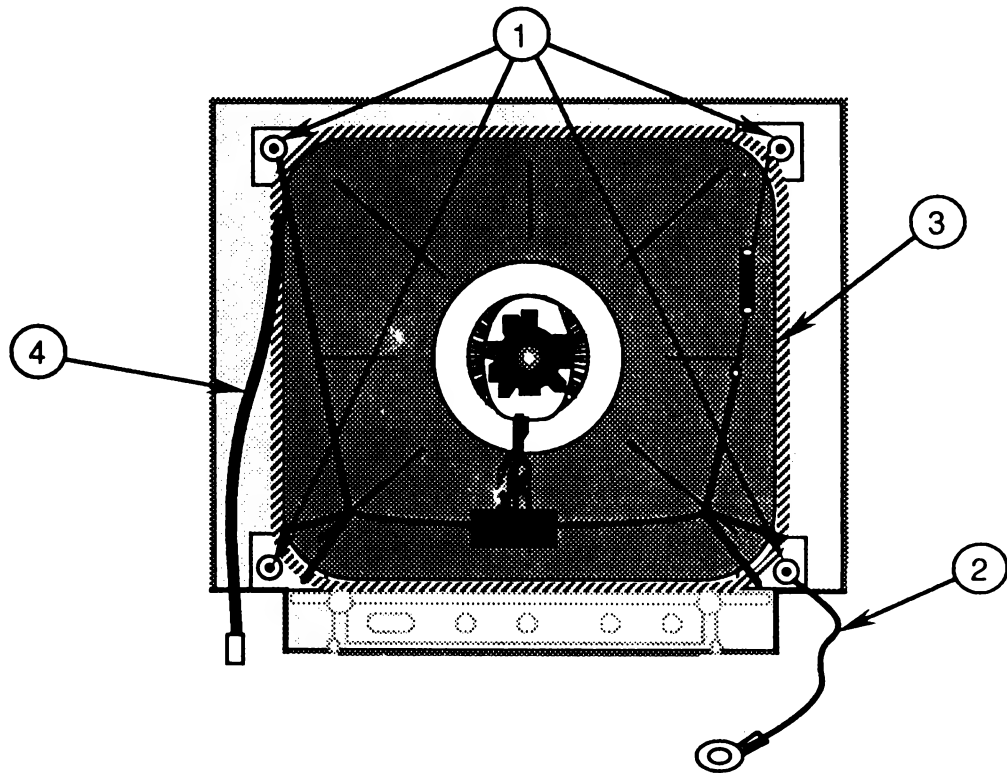

FIGURE 53
5. Unscrew the four CRT mounting screws (Figure 53, #1).
7. Remove the green CRT ground wire (Figure 53, #2) positioned between the CRT mounting bracket and the bezel.
8. Lift the degaussing coil (Figure 53, #3) out of the bezel.
2. Place the degaussing coil around the inside front of the bezel, making sure the degaussing coil ground strap (Figure 53, #4) is on the left side as you face the back of the monitor.
4. Replace the green CRT ground wire (Figure 53, #2), making sure the wire is positioned between the lower-right mounting bracket and the bezel as you face the back of the monitor.
5. Replace the four CRT mounting screws (Figure 53, #1).